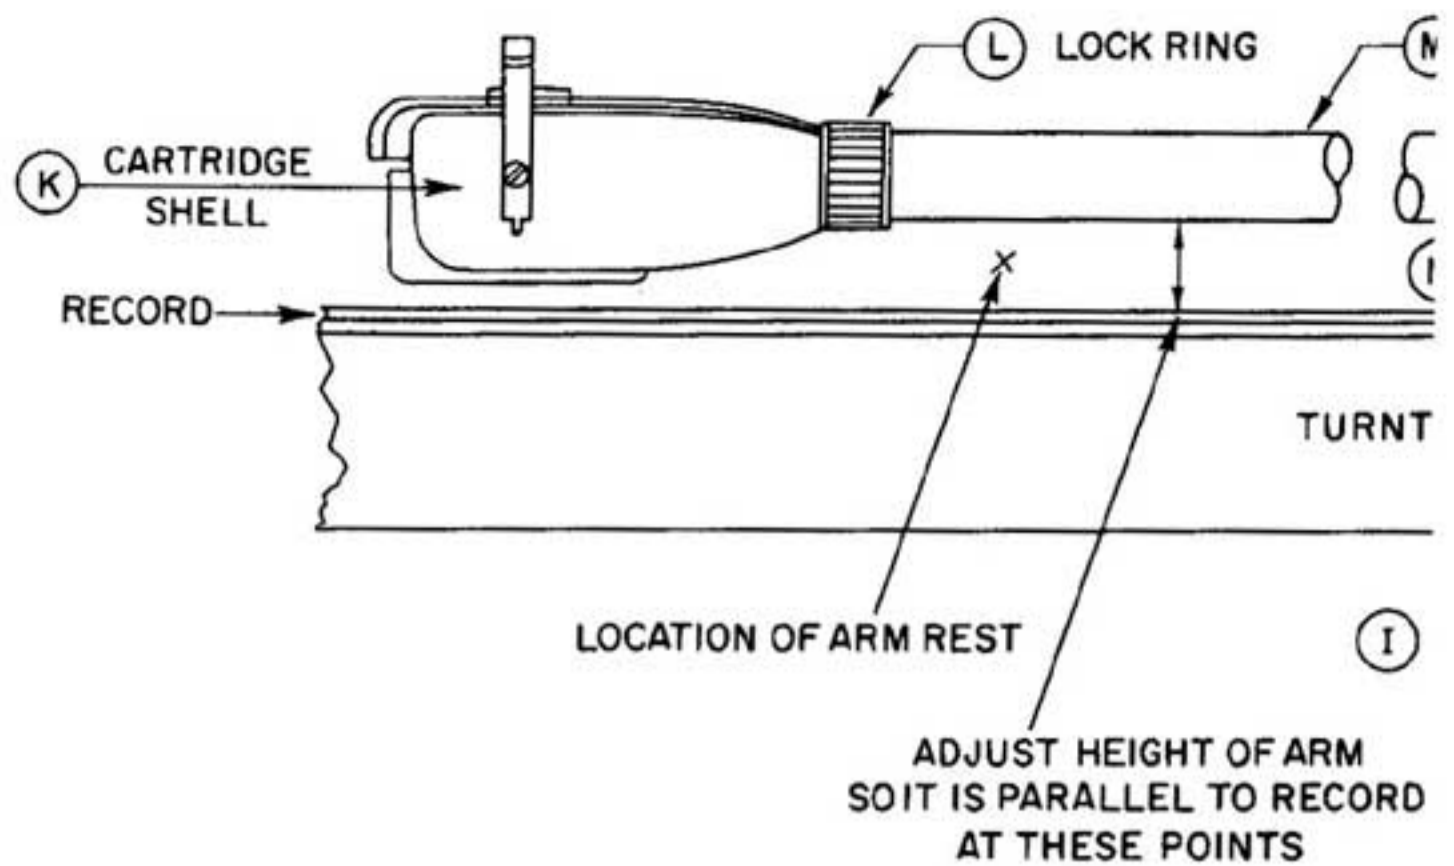

Fig. 2
- 4- Slide the Locking Ring (L) up the tonearm tube until it contacts the cartridge shell. (Fig. 2).
- 1- Place a record on the turntable (See Fig. 2).
- 2- For proper tracking results, the tonearm tube (M) must be paral-